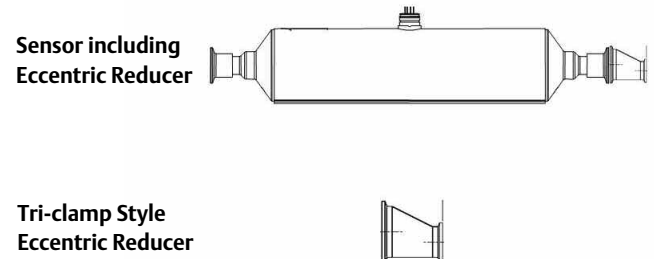

Figure 1. Example Installation: Single, Straight-Tube Coriolis Sensor with Eccentric Reducer
- If the process piping (tubing) must be larger than the sensor, eccentric reducers may be used to ensure full drainability. In this case, the process end connection and the sensor must be the same size. See Figure 1. Consult with your local Micro Motion® representative for more information on eccentric reducer suppliers in your area.